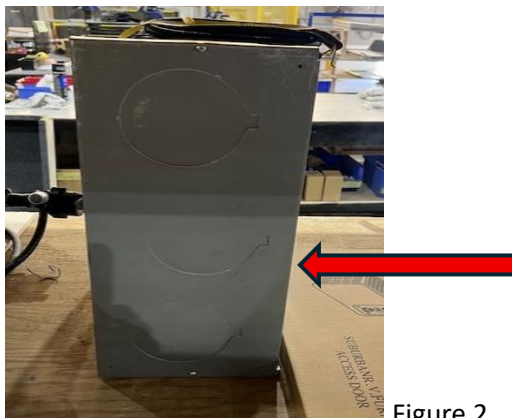

Figure 2
- Using suitable hand tools, knock out the center opening, see figure 2.